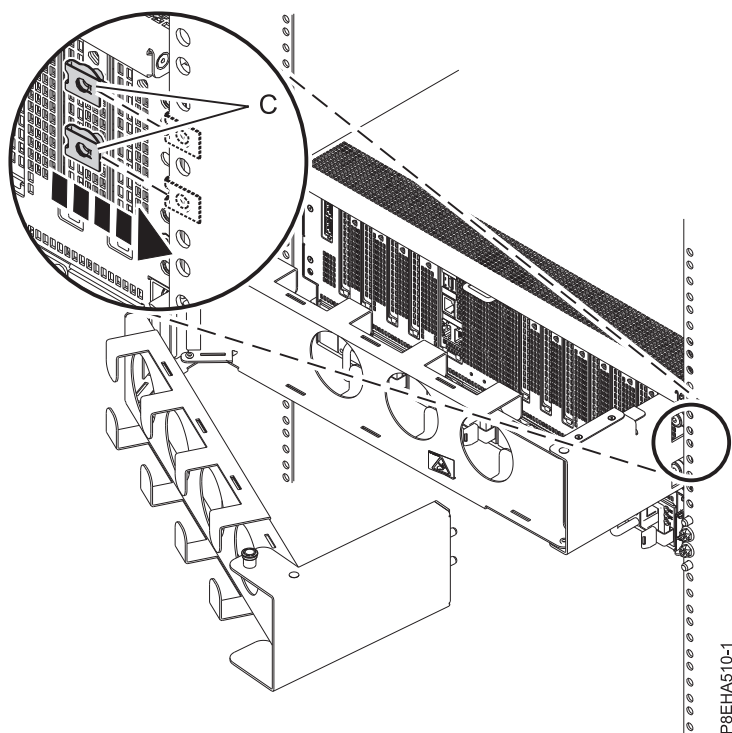

Figure 19. Attaching the nut clips to the rack rail
2. Slide the system drawer forward, so that you can access the frame. Attach two nut clips (C) to the rack rail in the location where you will be attaching the outer plate to the rail, as shown in Figure 19.